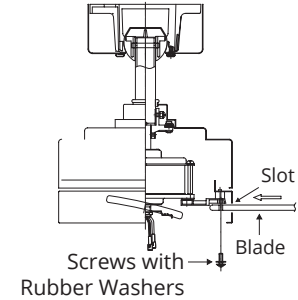

FIG. 17
1. Insert the blade through the slot in the housing. Align the holes in the blade with the fan motor assembly holes and secure with blade attachment screw with rubber washers (FIG. 17).